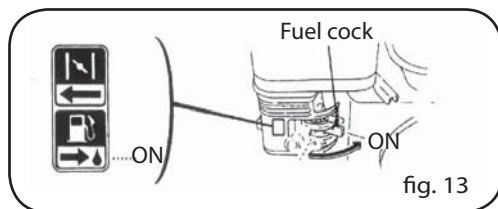

fig. 13
1. Push the fuel cock to "ON" (Fig. 13).